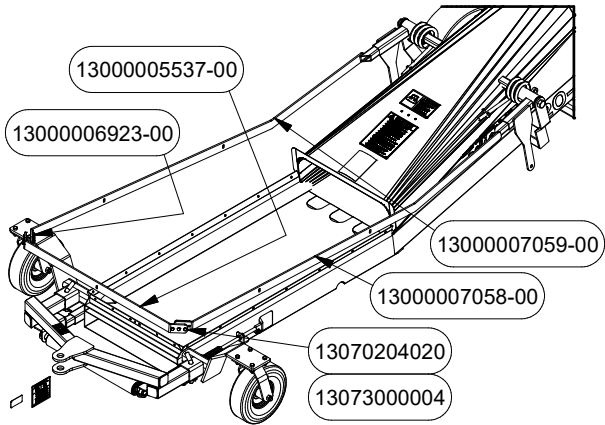

FIGURE 12
10. Set LH and RH hopper hoops PN# 7059 and 7058 into LH and RH pivots. Next feed the hopper canvas PN# 7618 (not shown) on to hopper hoops. Feed front hopper hoop into the canvas and fasten to LH and RH hopper hoops and canvas corner plates PN# 6923 with bolts PN# 13070204020 and nuts PN# 13073000004. See Figure 12. Note canvas not shown for clarity. The canvas should be pinched and supported between canvas corner plate and hopper hoops.